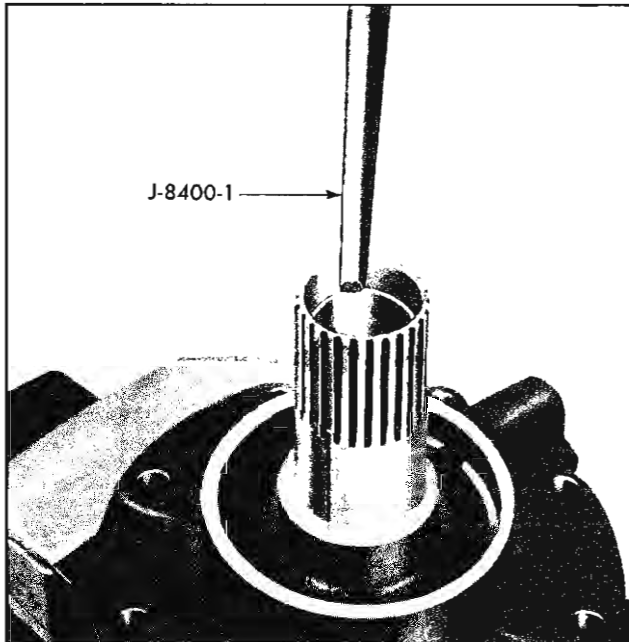

Fig. 4-50 Removing Stator Shaft Bushing
6. Remove stator shaft bushing using tool J-8400-1 (Fig. 4-50).